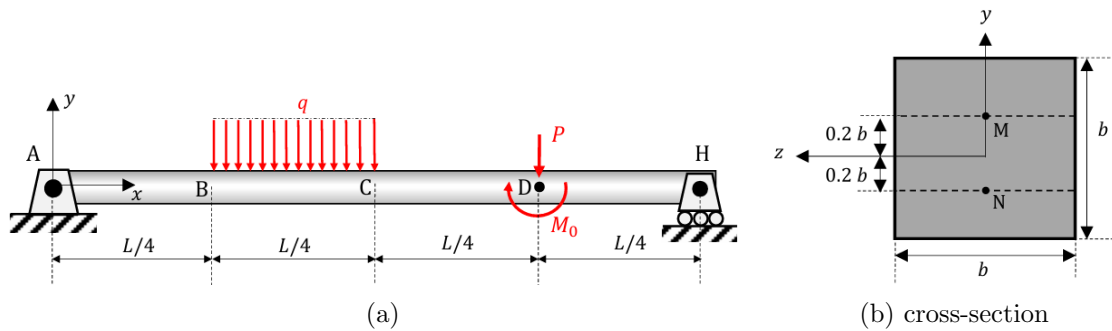

Figure 6
6. A simply supported beam AH is subjected to a constant distributed load q over the section BC, a moment M_0 and a concentrated force P at D. The cross section of the beam is shown below (See Fig. 6). The parameters are following: $L=8$ ft., $q=10$ lb/ft, $M_0 = 40$ lb-ft, $P=10$ lb, $b= 2$ in.